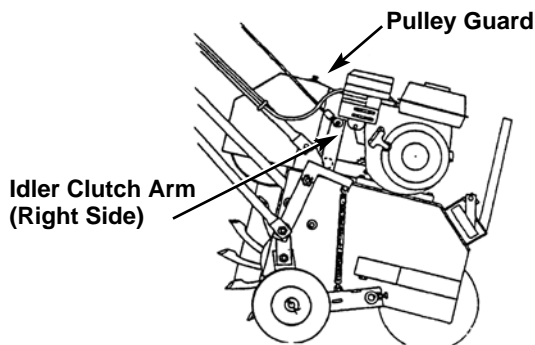

Fig. 2
**TA-25D** - Qty. 4, one in each wheel assembly and one in each idler/clutch arm pivot bearing. (See Fig. 2.)
2. Take off pulley guard (see Fig. 2) by removing bolts, etc. which attach it to the frame.